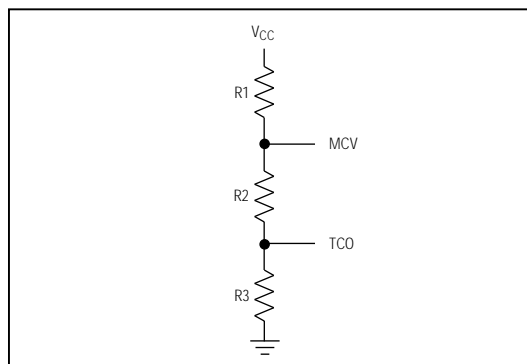
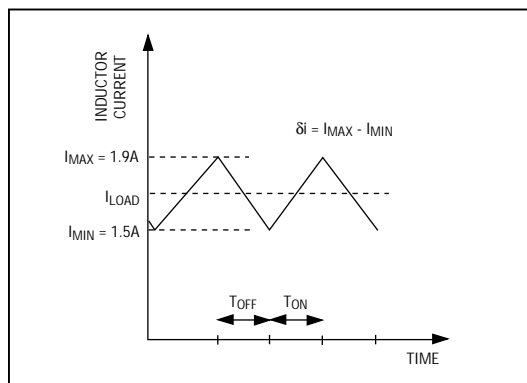

Figure 9. Resistor Configuration for MCV and TCO
Figure 10. Inductor-Current Waveform in Continuous-Conduction Mode
7) Select Maximum Cell Voltage (MCV) and Temperature Cutoff (TCO). The MCV and TCO can be selected with a resistor-divider combination (Figure 9). In our example, TCO has been set to +10°C, which corresponds to a voltage of 1.72V at the TS pin. The MCV for most fast-charge batteries can be set to about 1.9V. To minimize the current load on V_{CC} , choose $R1$ in the range of 20k Ω to 200k Ω . In this example, choose $R1 = 60.4\text{k}\Omega$, then calculate $R3$ and $R2$ as follows:
In order to provide high currents with minimum ripple, the device must function in the continuous-conduction mode. Figure 10 shows a current waveform of an inductor in the continuous-conduction mode (where the coil current never falls to zero).
The average load current (I_{LOAD}) through the inductor must be 1.7A, so a peak current (I_{MAX}) of 1.9A should give a fairly low ripple while keeping the inductor size minimal. This means that the total current change (Figure 10) across the inductor is $\delta i = 2 (1.9 - 1.7) = 0.4A$.
The MAX2003/MAX2003A can use several other circuits to charge batteries. Figure 9 shows a circuit that uses a Darlington transistor to regulate the current a six-cell NiCd battery pack receives. Figure 10 shows a gated current-limited supply being used to charge a Duracell NiMH battery pack. Table 6 lists the external components used in these two application configurations.